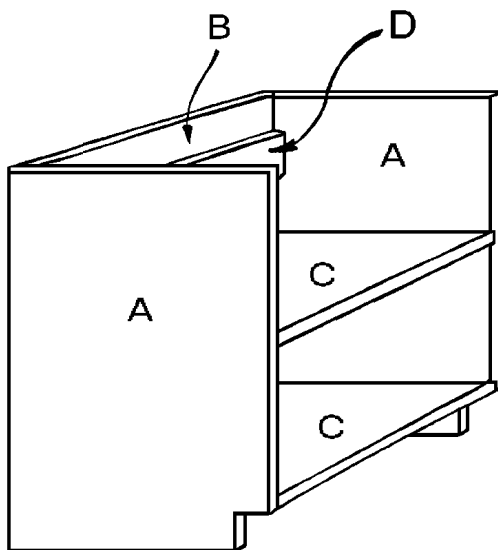

Figure 3
5. Assemble the two sides (A), back (B), and two shelves (C), as shown in *Figure 3*. Note that the shelves (C), slide into the dados. Check to make sure that all of the parts are square